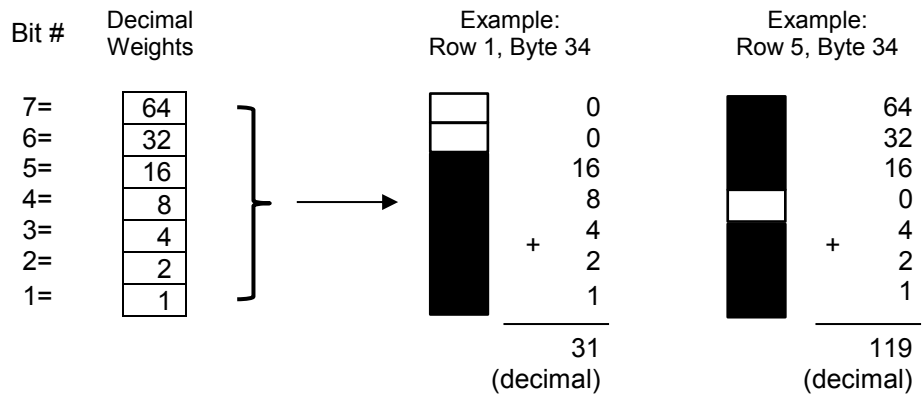

Figure 38 Logo Design
8. Define the logo, and return to the form to add the logo data. The HandCraft logo is a hand with a sailboat as plotted in Figure 38. (Use the Logo Grid in Appendix C to plot the dot positions for your logo the same way.) Drawing the logo out on a grid permits the dot positions for each vertical data byte in the logo to be computed and input as data in the Plotting Graphics (Q) command. Notice that where dot positions are *not* computed, the boat image in the hand
For example, the values in Table 69 have been assigned to bits 1 through 7 for the first 0.1-inch row of data bytes (1 through 42) shown in Figure 38. Each byte was first calculated in decimal and then converted to the equivalent hexadecimal value (using the ASCII chart in Appendix A). The hexadecimal values are the data for the program shown on page 258.
Following this scheme, all hex data bytes for an entire 0.1 inch row (seven vertical dot rows) of the logo can be calculated. Subsequent rows are calculated similarly. To print each 0.1-inch row of the logo, the print position is shifted down 0.1 inch using the Justification command, and then the same vertical data byte columns are used. (See the second example in Figure 38.)
Following this scheme, all hex data bytes for an entire 0.1 inch row (seven vertical dot rows) of the logo can be calculated. Subsequent rows are calculated similarly. To print each 0.1-inch row of the logo, the print position is shifted down 0.1 inch using the Justification command, and then same vertical data byte columns are used. (See the second example in Figure 38 on page 257.)